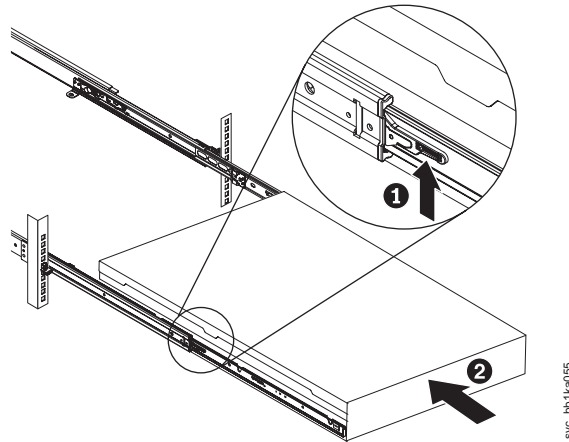

Figure 143. Raising the SAN Volume Controller 2145-CF8 locking levers of the slide rails of the rack
9. Lift the locking levers (**1** in Figure 143 on page 160) on the slide rails and push the server **2** all the way into the rack until it clicks into place.